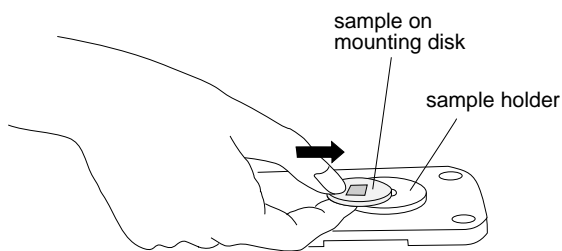

Figure 2-10. Sliding the sample mounting disk onto the sample holder.
Next, you will slide the sample mounting disk onto the sample holder, as shown in Figure 2-10. The sample holder is a small round stub attached to the top of the scanner. The magnet of the sample holder holds the sample mounting disk securely in place. The scanner (located underneath the sample holder, where you can't see it) is the element that rasters your sample back and forth under the probe head while an image is being taken.
5. Gently *slide* the disk onto the sample holder, as illustrated in Figure 2-10. Position the disk so that the *sample* is centered on the sample holder.